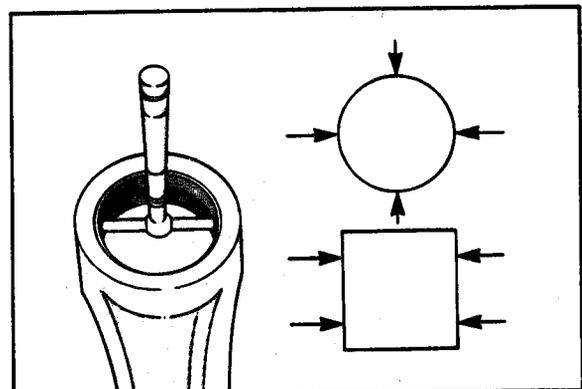

Figure 6-14
11. Inspect connecting rod for damage and wear (Figure 6-14).